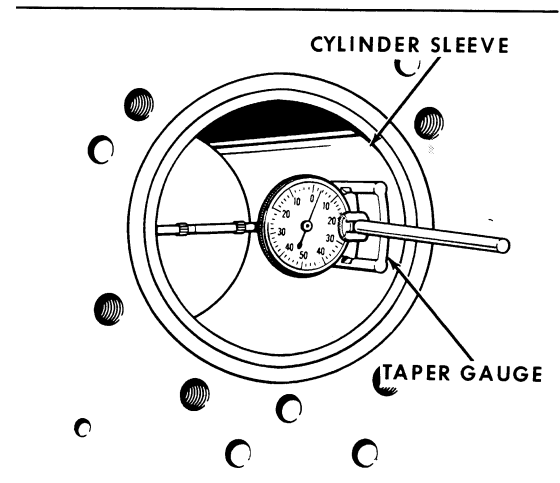

Figure M-28
4. After checking the sleeve  $\frac{9}{16}$  of an inch from the top, lengthwise, check at several points down the length of the sleeve. Subtract the smallest diameter from the largest diameter will give the taper of the sleeve. Refer to Figure M-28 and "Specification" Section.